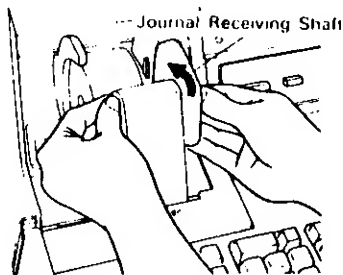

Fig. 5
- 2) Depress the J.F. key until a paper length of about 40 cm is out of the journal paper guide and wind it around the journal receiving shaft two or three turns in the direction of the arrow (see Fig. 5).